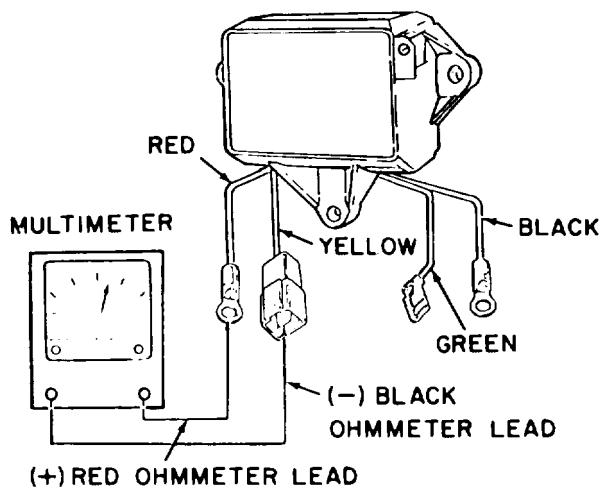

Figure 8-3. Voltage regulator excitation circuit test
f. Test rotor assembly (51) or grounded slip ring, using a multimeter. No circuit from either slip ring to shaft is correct condition.
g. Perform resistance check on rotor assembly (51) windings using a multimeter. Resistance should be between 11 to 14 ohms.
h. Test voltage regulator (25) by connecting multimeter leads to regulator leads as follows: (See figure 8-3).
i. Inspect fan (43) for cracked or broken fins. Check fan bore for wear.
j. Inspect pulley (42) for worn drive surfaces and condition of key groove. Check pulley bore for wear.